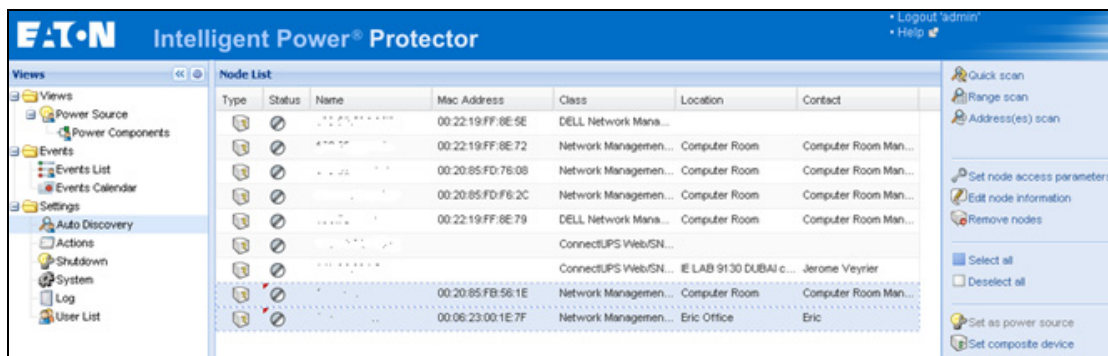

Figure 57. Selecting Set Composite Device for Nodes
3. Click **Set composite device** in the right panel (see Figure 57).
Actions you can perform on the new node are as follows (see Figure 57):